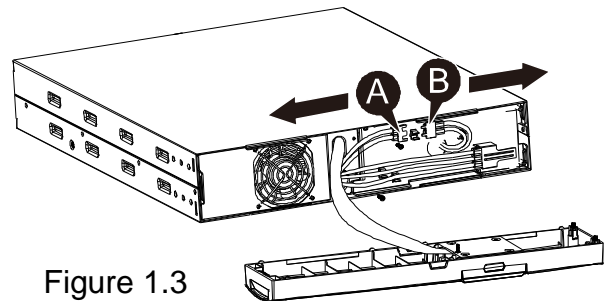

Figure 1.3
STEP 3: Disconnect the cable from the UPS to battery pack. (Figure 1.3)